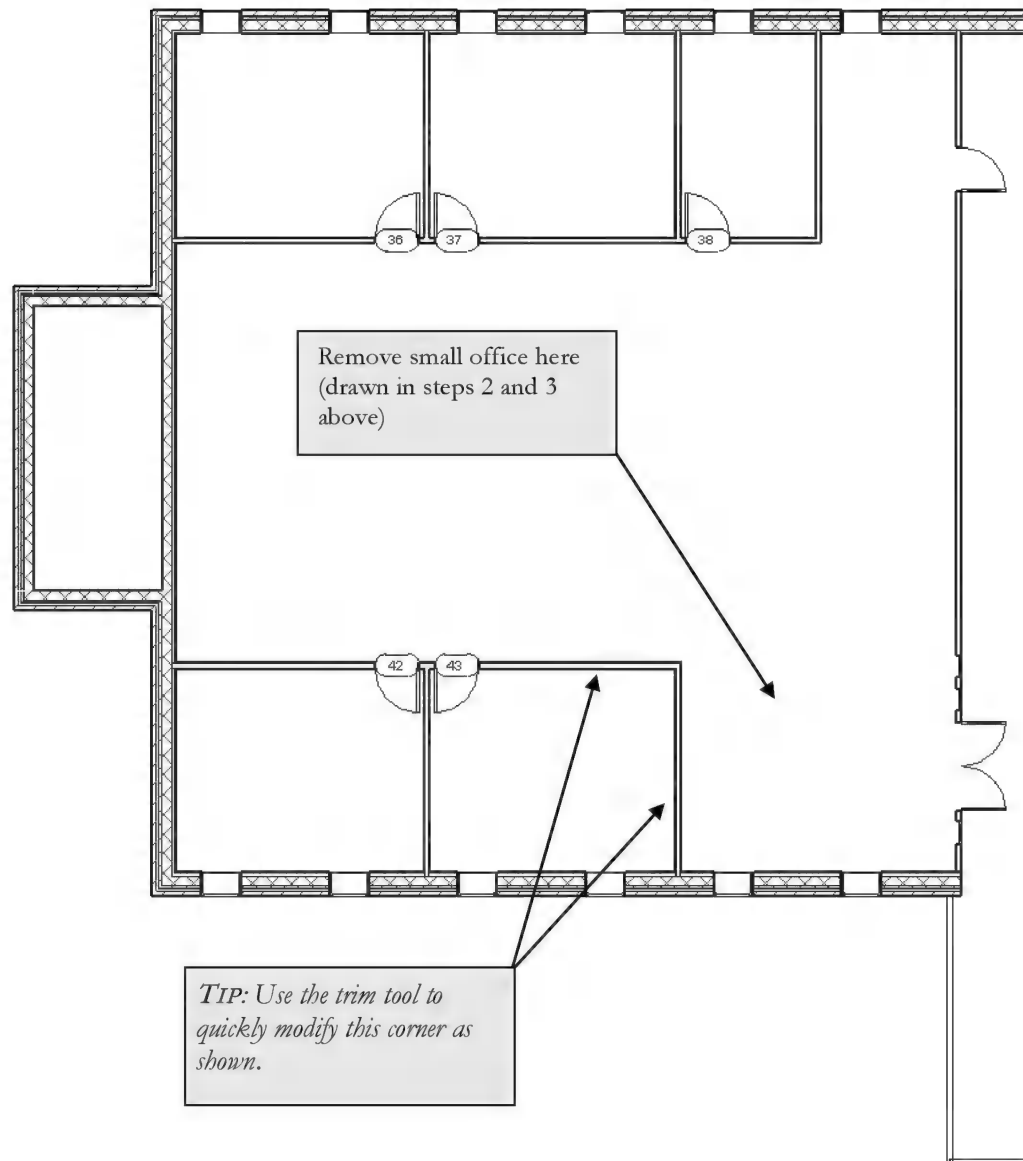
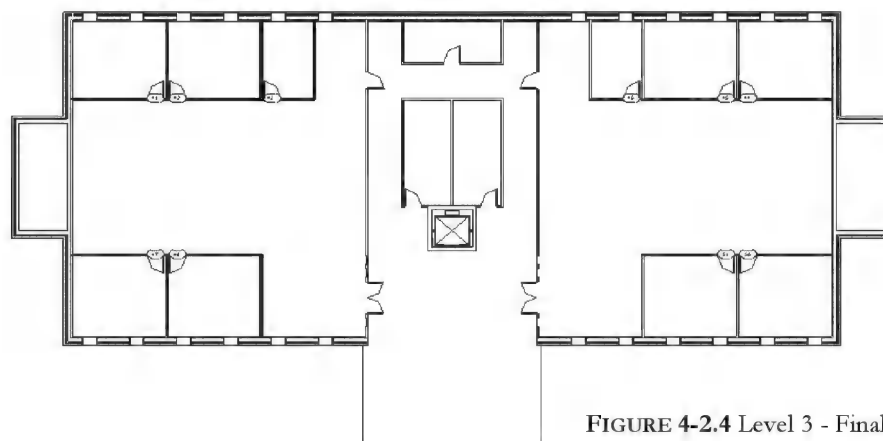

FIGURE 4-2.3 Level 3 - Modify walls
FIGURE 4-2.4 Level 3 - Final layout
4. Finally, modify the small office on the south, each side of building (Figure 4-2.3 and Figure 4-2.4).
*TIP: If you use the Trim tool (per the TIP in Figure 4-2.3), you will need to select “Delete Instance” to tell Revit to delete the door from the portion of wall that is being deleted.*